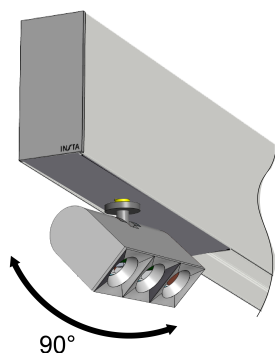
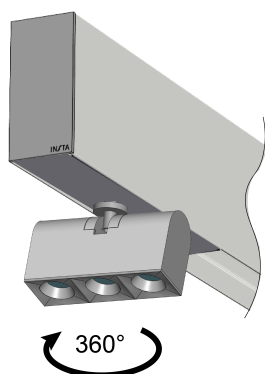

Figure 6: Swivel the spotlight
Figure 7: Turn the spotlight
The spotlight (2) can be swiveled 90° and turned 360°, see (Figure 7) and (Figure 6).